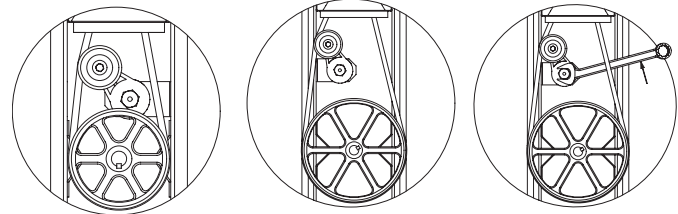

Figure 3
- Install the belt tightener base to the support angles as shown in Figure 3 and 4 using the 1/4 inch bolts and nuts provided. Hand-tighten only at this time.
- Attach the belt-tightener to the belt tightener base as shown in figure 3 and 4 using the 3/8 inch bolt and lock washer. Hand-tighten only at this time.